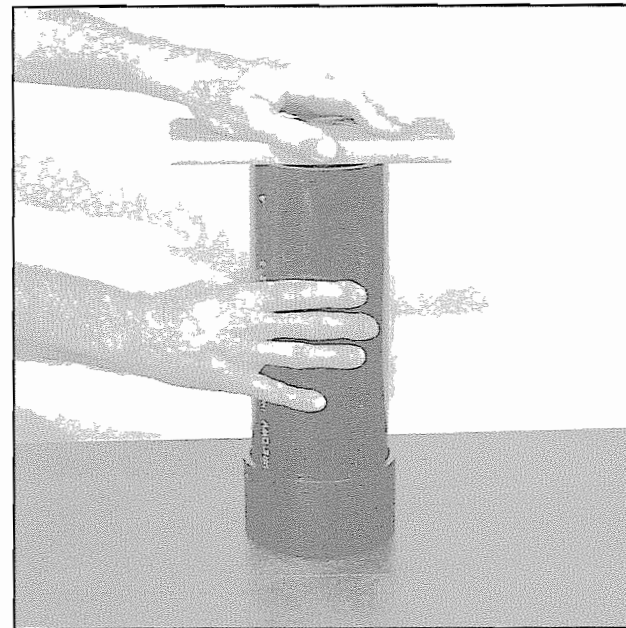

Figure 4-75. Sandpaper and a block of wood are used to smooth the ends of the plastic pipe.
3. Cut the plastic pipe to length, and true up and smooth the ends. You can do this on a metal lathe *if the lathe is big enough*. Otherwise, you can do it with a flat block of metal or wood, and some #120 sandpaper. Hold the pipe firmly in an upright position, wrap the sandpaper around the block, and sand both ends of the pipe until they are smooth and flat, and all the saw marks have been removed (**Figure 4-75**).